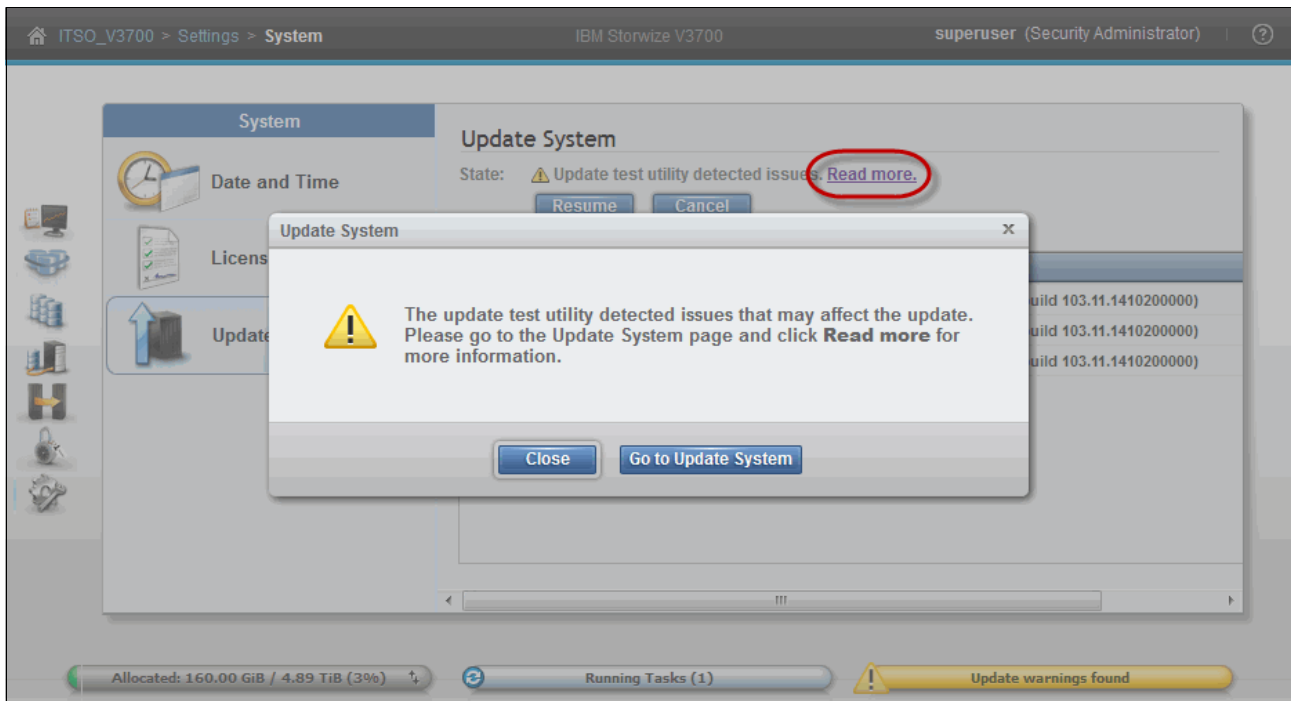

Figure 11-30 Test Utility detected issues
9. Messages inform you of any warnings or errors that the test utility finds. Figure 11-30 shows the result of the test utility finding issues with an IBM Storwize V3700 before continuing with the software update.